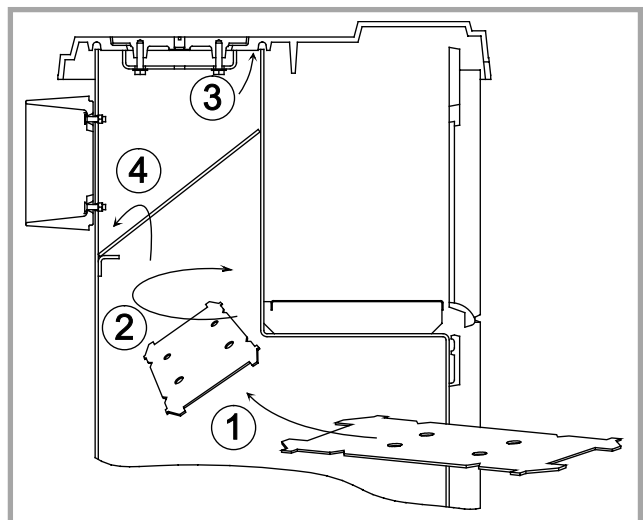

Figure 15 - Fitting the flue baffle
- Replace the internal baffle (fig. 15, p. 8)
- Reinstall the internal baffle (fig. 15, p. 8).
Check the condition of the filler seals, that the door closes correctly, that the window is not damaged, that the smoke passages are not obstructed by packaging or removable parts. All removable parts, fuel retainer, baffle (fig.15), must be correctly installed.